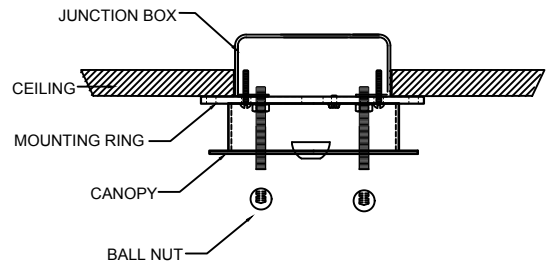

FIGURE-03
7. Pull up & attach the canopy to the mounting ring and secure it with ball nuts. (See Figure-03)